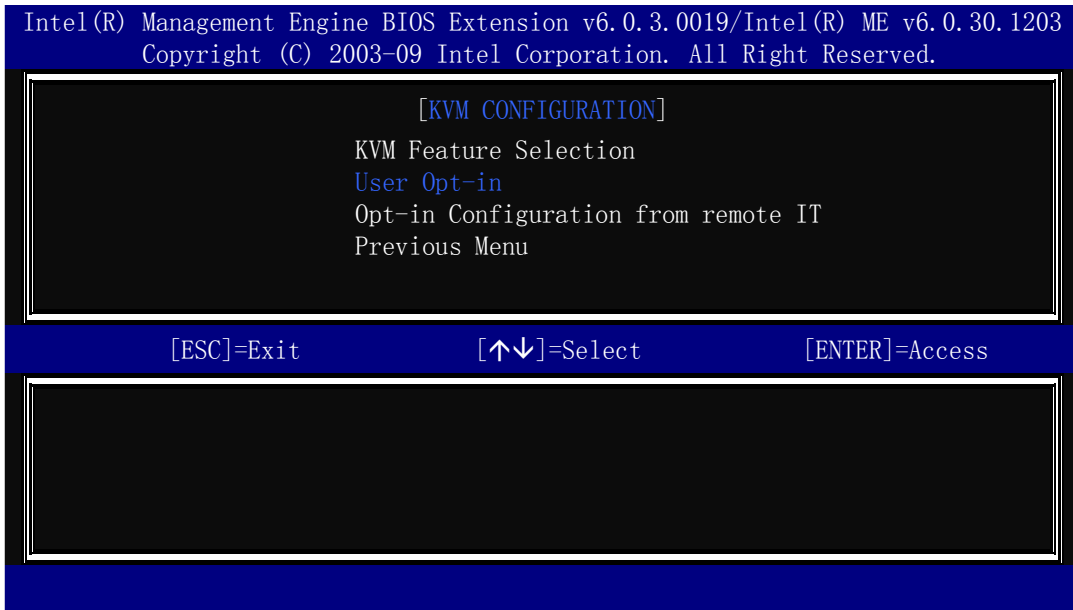

Figure A-6: KVM Configuration
Step 7: When the screen in **Figure A-6** prompts, select **User Opt-in** and press **Enter**.